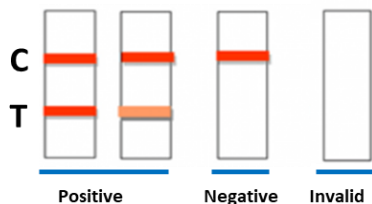

Fig. 2 Diagram for result interpretation.
This product utilizes the principle of colloidal gold immunochromatography technology to coat a strain of enterohemorrhagic Escherichia coli STX1 (EHEC STX1) and STX2 (EHEC Stx2) on the surface of the NC membrane as a detection line (T). Then another STX1 and STX2 monoclonal antibody was coupled to colloidal gold and attached to the colloidal gold pad. When the sample liquid chromatography passes through the colloidal gold pad, the EHEC mixed toxin in the sample will specifically bind to the red monoclonal antibody-colloidal gold conjugate and continue to chromatograph to another coating on the NC membrane and the detection line. The monoclonal antibody of the strain specifically binds to form a pink band, which shows a positive result. When the sample does not contain toxins, the two monoclonal antibodies cannot form a double-antibody sandwich structure at the position of the test line and show a pink band. At this time, the test result is negative. Please see the Diagram of Fig. 2.